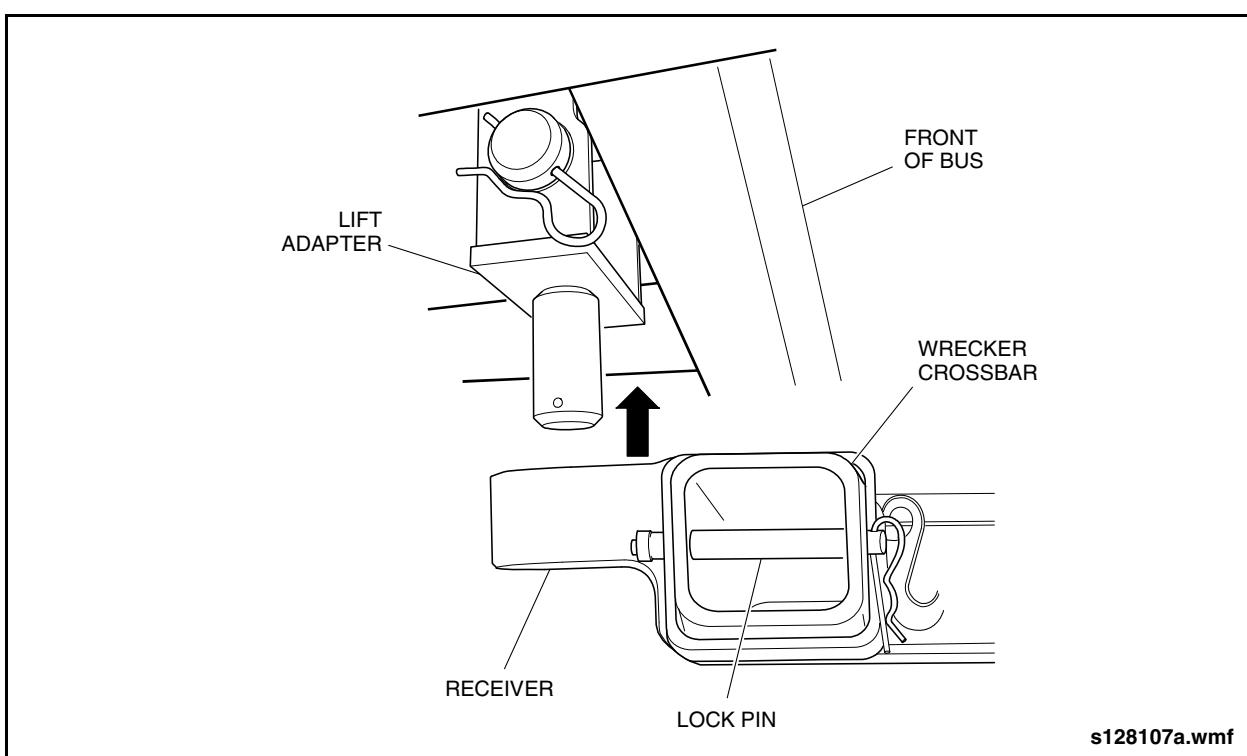

Fig. GI-25: Securing Lift Receivers to Lift Adapters
1. Position the wrecker's lifting boom with the lift receivers in place under the pegs of the lift adapters. See "Fig. GI-25: Securing Lift Receivers to Lift Adapters" on page 50.